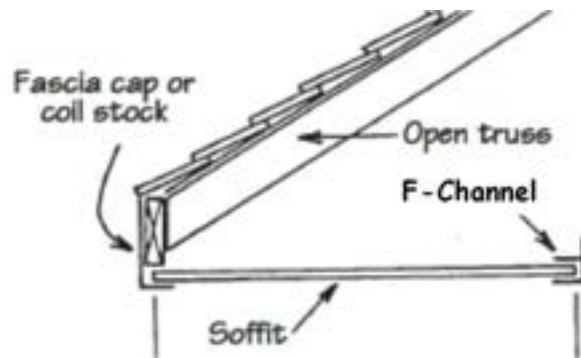

Figure 11-22. Eave Soffit.
1. Start by installing soffit pieces on the eave side of the house (see Figure 11-22 for a typical eave soffit installation). Measure from wall to outer edge of the sub-fascia and cut soffit pieces $\frac{1}{4}$ " less than that dimension.